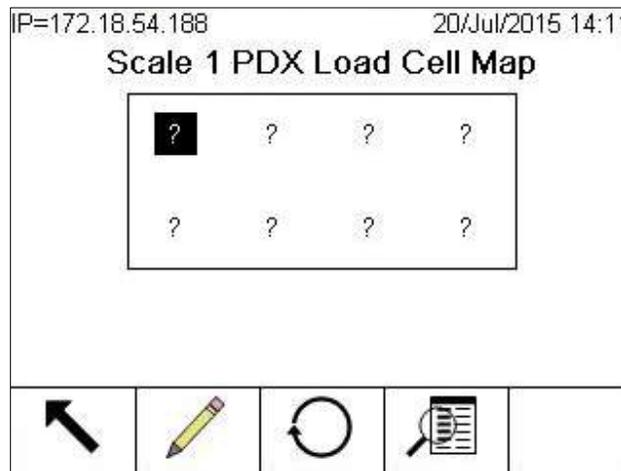

Figure 3-166: Load Cell Map View
Figure 3-166 shows a PDX map for Scale 1. Before mapping is performed, each cell's address appear as a "?," and the cable connection list below the diagram is blank. The platform graphic includes the number of loads cells specified in setup at **Scale > Type > # of Load Cells**. Use the navigation keys to move focus from one cell position to the next in the diagram.
Note that the position of each cell in a platform is designated alphabetically – to differentiate it from the numeric address value. Figure 3-167 shows the alphabetic positions for 14 load cells. In the example shown in Figure 3-166, only the first eight positions are used.
3. The unconfigured map view (Figure 3-166) will display, with each load cell represented by a question mark (?).
4. Use the arrow keys to select the cell to which the home run cable is connected – the second in the bottom row in Figure 3-166 – and press the EDIT softkey. The Node Edit screen (Figure 3-168) will appear.